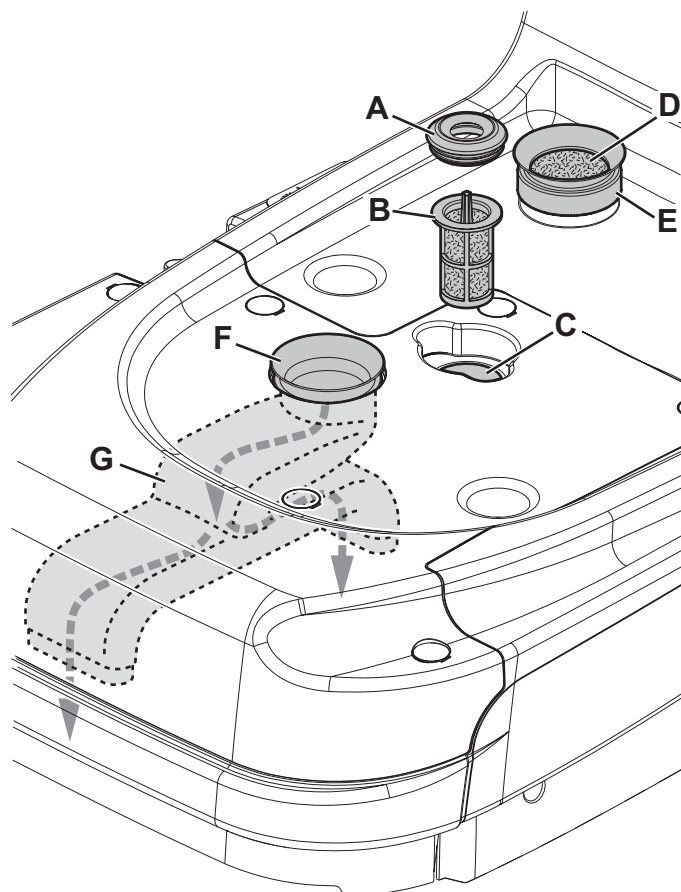

Figure 12
1. Remove the tanks container (13) from the machine body using the handle (15).
2. Remove the rubber gasket (A, Fig. 12), then remove the filter strainer (B).
3. Clean them and reinstall in the housing (C).
4. Remove the air filter (D) and clean it.
5. Refit the filter in the housing of the gasket (E).